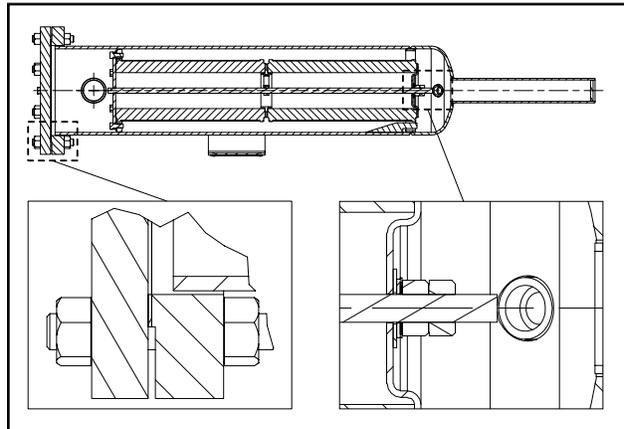

Figure 30. SuperFilter II - Design Pre-2010
7. **GG, HJ, HL:** Remove snap ring from shaft. See Figure 29. **AS, AK, AL:** Remove bearing spacer from shaft. See Figure 30.